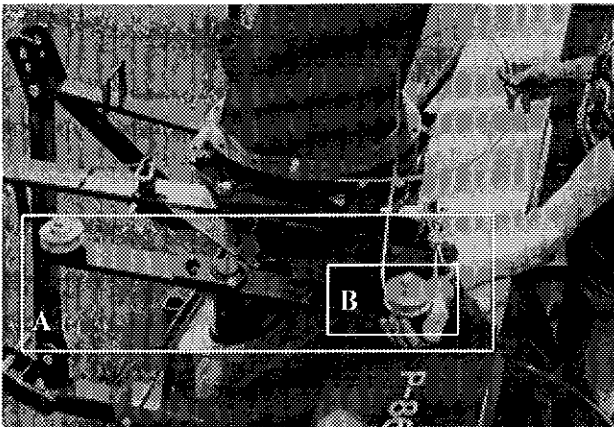
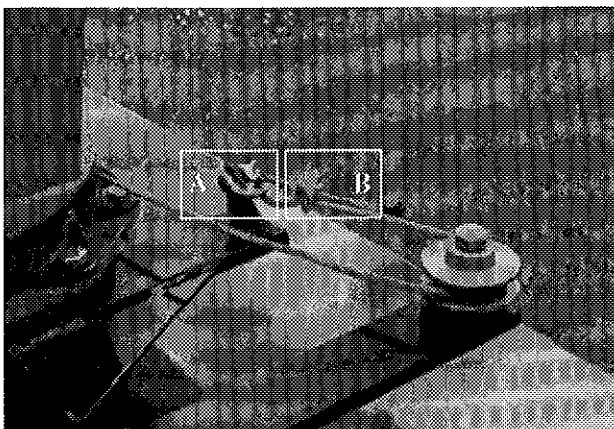

Figure 24
Figure 25
- 3) Place pivot (A Fig. 24) perpendicular to the front of the Snowblower.
- 4) Pull cable end from the gearbox side, go around the chute, then around pulley (B Fig. 24), loop through clevis (A Fig. 25) and secure with cable clamp (B Fig. 25).